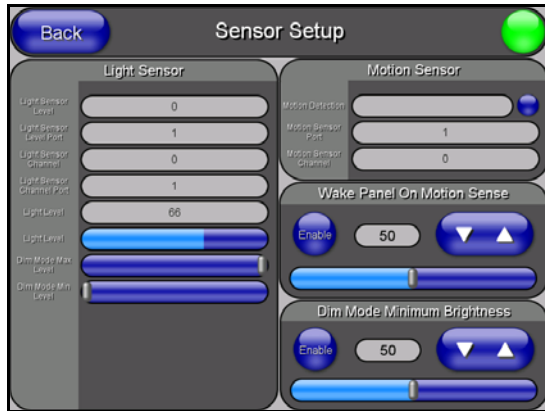

FIG. 97 Sensor Setup page
The Sensor Setup page (FIG. 97) allows you to adjust the Light and Motion Sensor parameters on a Modero touch panel.
3. Open the Sensors Setup page (FIG. 97 on page 110) from the Protected Setup menu section.